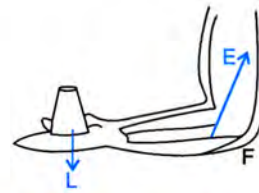

Fig. 3.9 Raising a load kept on a palm (Forearm as Class III lever)
(3) **Class III lever in raising a load by forearm :** Fig. 3.9 shows the action of